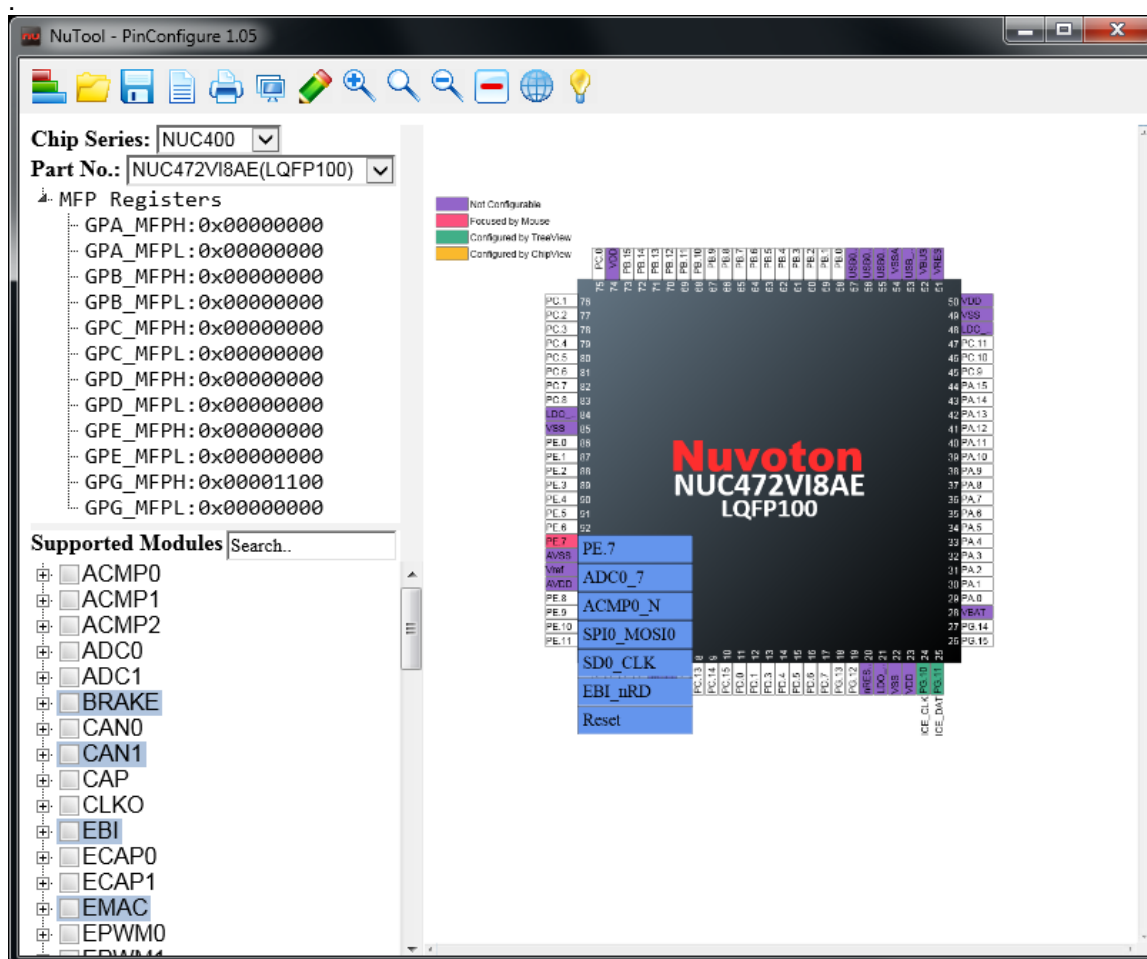

Figure 3-8 List of All the Related GPIO Multi-functions
1. Move the mouse cursor to the expected pin and click on the left button of the mouse. Then the list of all the related GPIO multi-functions will emerge in the vicinity of the pin (referring to Figure 3-8).